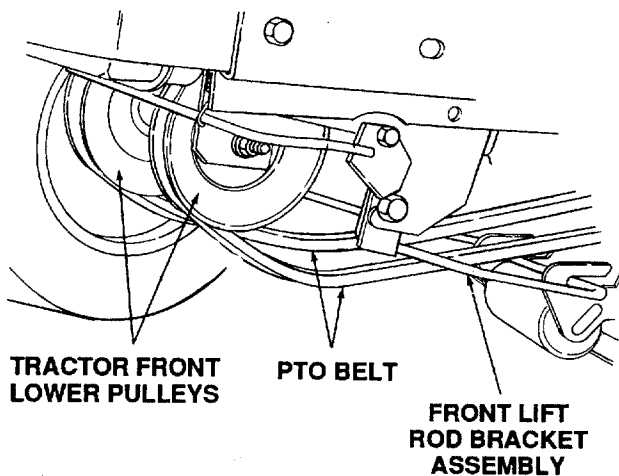

Figure 40
5. Pass the PTO belt downward, inside the tractor frame, until the belt is below the two tractor front lower pulleys and pull the belt clear of the tractor (Refer to Figure 40).